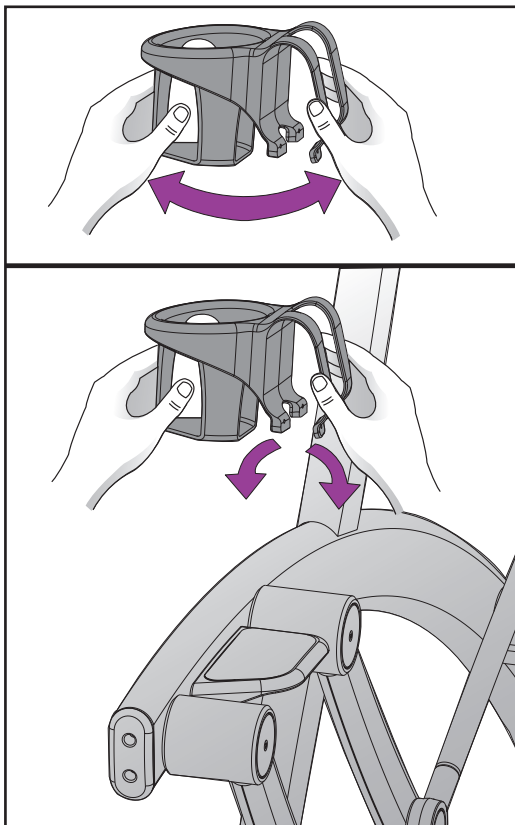

Figure 6
A. Hold the water bottle holder with two hands and gently pull outward and continue to pull (hold open) during step 7B. See Figure 6.
B. Place the water bottle holder over the frame with the larger side outside of the frame as shown in Figures 6 and 7. **NOTE:** Water bottle holder may be placed on either side.